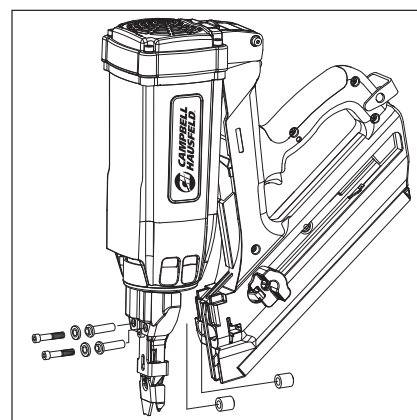

Figure 28
3. Remove the socket head cap bolts with allen wrench (see Figure 28).
4. Pull magazine away from head assembly (see Figure 28). Remove the jammed fasteners.